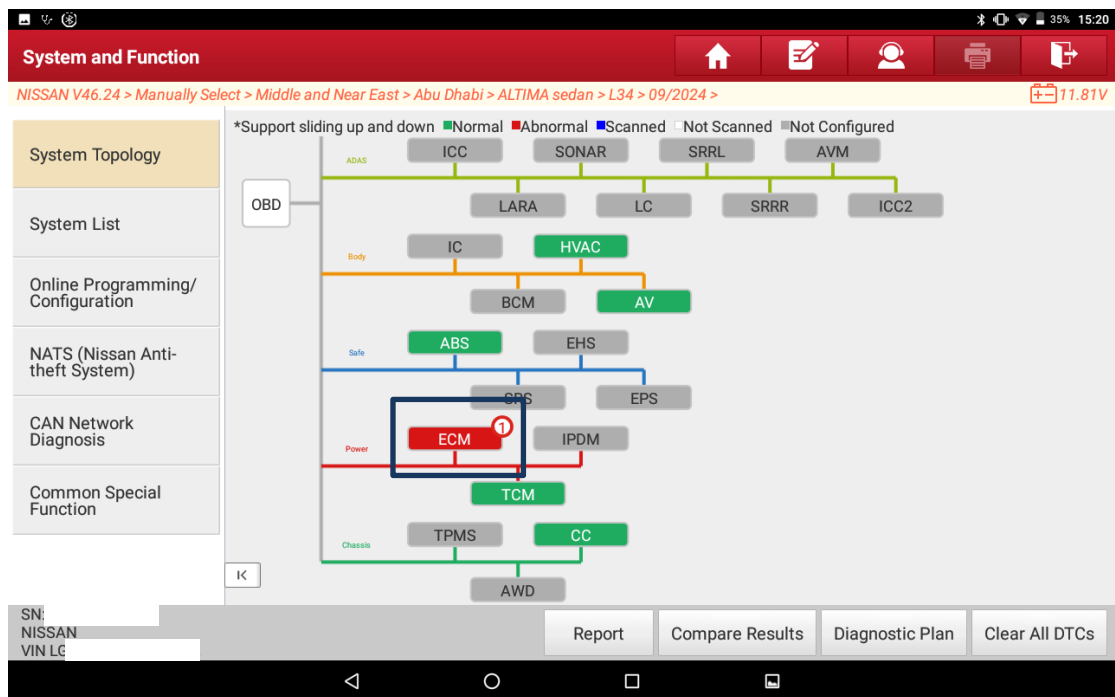
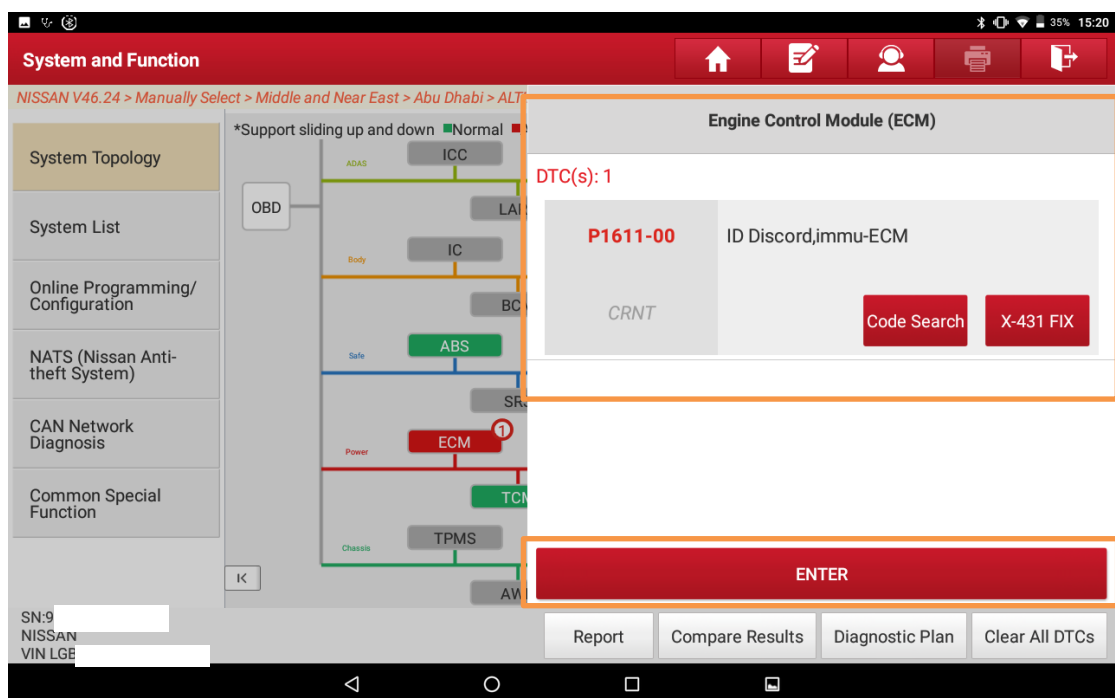

Figure 7
Figure 8
4. After the detection is completed, click [ECM] on the system topology (Figure 7) to display ECM DTC information (Figure 8). If a new control unit has been installed, or if the diagnostic tool reads vehicle identity-related DTCs (such as P1611: ID mismatch between IMMU and ECM), the vehicle identity information stored in the control unit may be incorrect. After ruling out faults related to the control unit's power supply, communication, and wiring, you must perform the VIN registration function to rewrite the VIN information. Click "ENTER" (Figure 8) to enter the ECM menu interface.